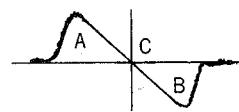

Fig. 8
2. Adjust the primary core (lower) of T201 so that the output is like the S curve shown in Fig. 8 with A and B symmetrical with respect to C.